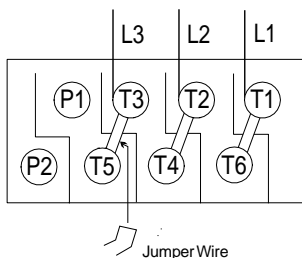

Fig.16
- Figure 16 for speed 2 - High speed